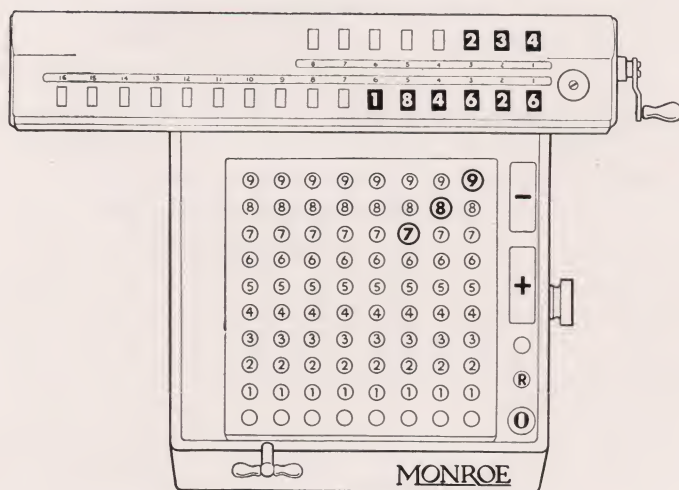

Figure 4
Step 3—Upper dials now read 234, the multiplier; the keyboard (keys depressed) reads 789, the multiplicand; and the lower dials read 184626, the result. This is complete and positive proof of accuracy. The only further proof required is a visual check of 234 and 789 in the machine against the two specified amounts. If the amounts in the machine agree with those specified the result must be correct. See Figure 4.
At the completion of the previous problem (See Figure 4), the machine shows 789 on the keyboard, 234 in the upper dials, and 184626, the result, in the lower dials. Suppose 789 is constant as a multiplicand. We wish to change the multiplier 234 to 432.